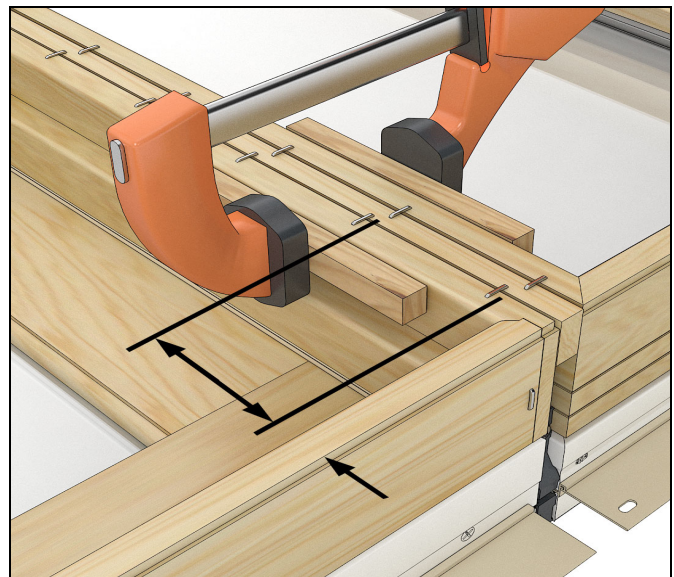

Figure 34
15. Connect the frames to the mull support with two rows of alternatively spaced staples a maximum of 1" from end and 7" on center. See Figure 34.